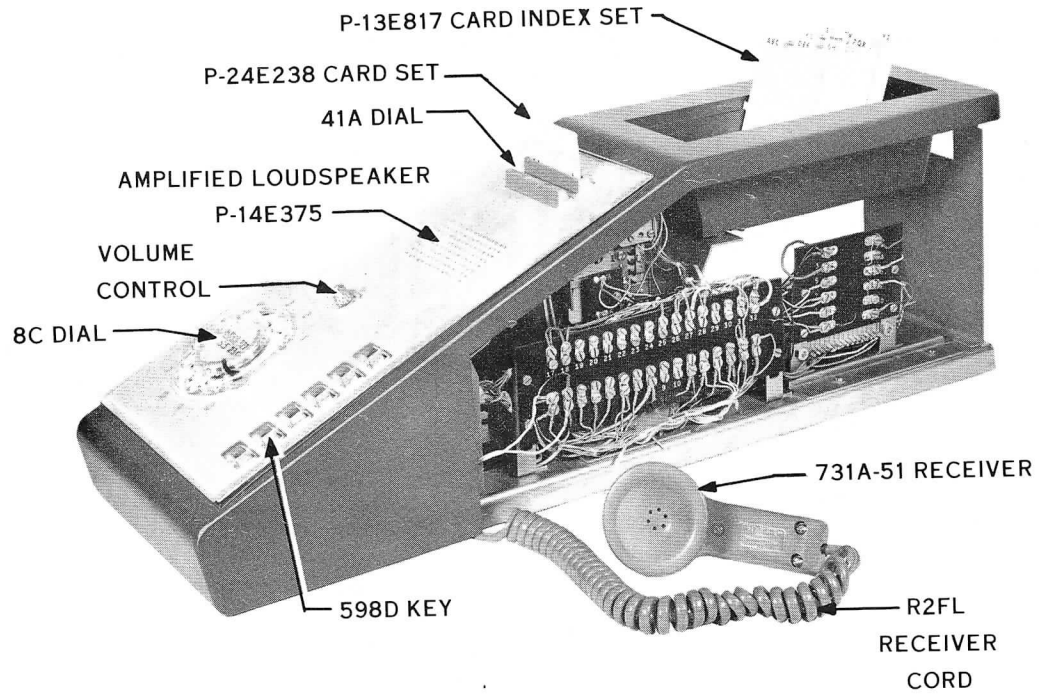

Fig. 7 - 689E Subscriber Set
**2.07** This set (Fig. 7) combines the features of the 689A, 689C, and 689D subscriber sets.